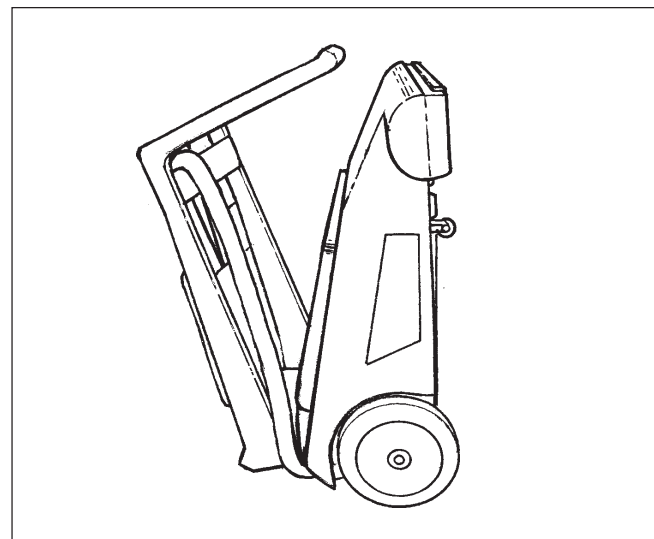

Figure 6
6. **Storage:** The handle may be folded down and the machine stored upright (figure 6) to reduce storage space requirements. Store the machine in a clean dry area.